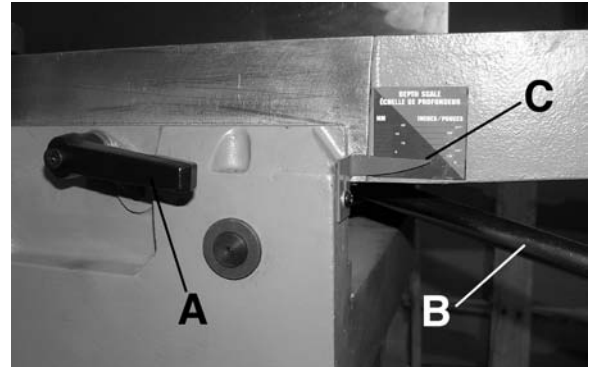

FIGURE 12
To raise or lower the infeed table, loosen table lockhandle (A) Fig. 12, and move the table raising and lowering hand lever (B), up or down until the table is at the desired position and tighten table lockhandle (A). NOTE: The table lockhandle (A) can be repositioned by pulling out the handle and repositioning it on the serrated nut located under the handle. The depth of cut of the infeed table (position of table in relationship with the cutting circle) can be read with the pointer and scale (C).